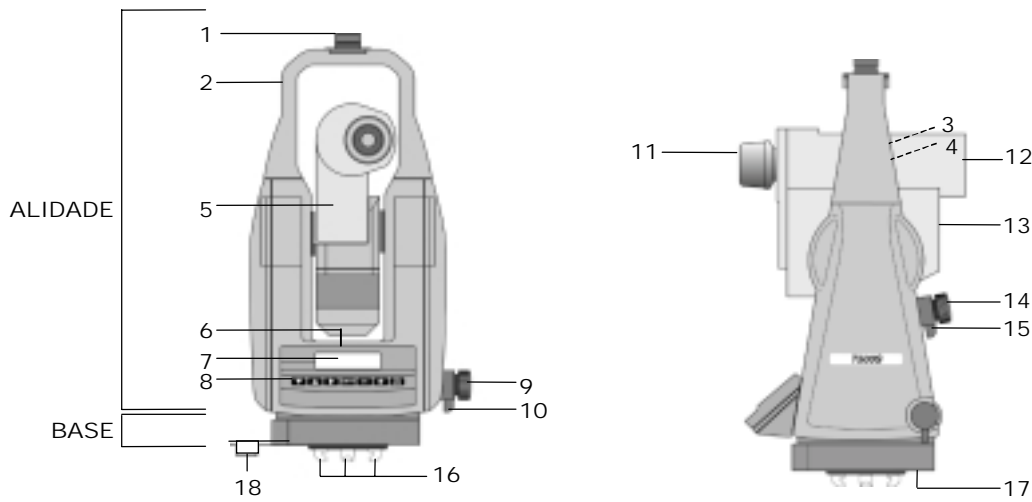

Figure 1-5 T502S Theodolite with MRF 2000 Rangefinder
3. **MRF2000-2 Monocular Rangefinder.** The MRF2000-2 monocular rangefinder is shown in figure 1-5. The rangefinder (5) is an eyesafe laser rangefinder equipped with a ten power telescope. It is mounted centrally on the theodolite. The vertical motion fine adjustment knob, vertical motion locking lever, horizontal motion fine adjustment knob and horizontal motion locking lever are used for aiming and pointing the telescope. It consists of:
- Eyepiece (11).
- Objective for the laser receiver and sighting (12).
- Laser exit window (13).